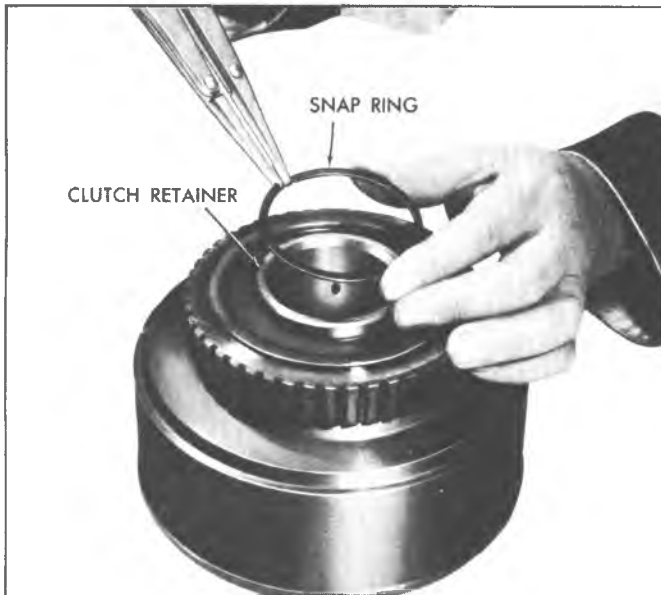

Fig. 79T--Removing Intermediate Clutch Retainer Snap Ring
1. Remove intermediate roller assembly retainer snap ring and retainer (fig. 79T).